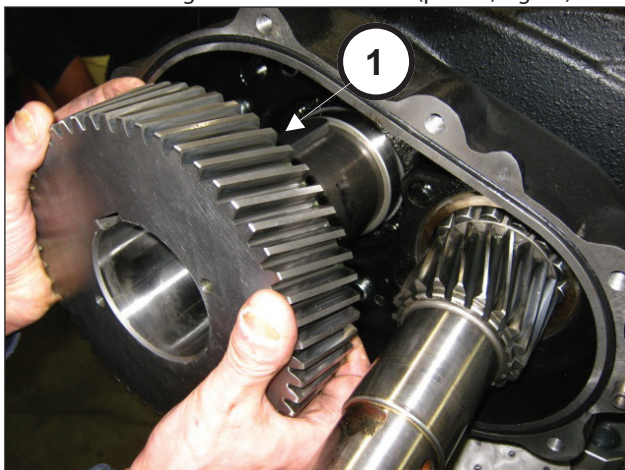
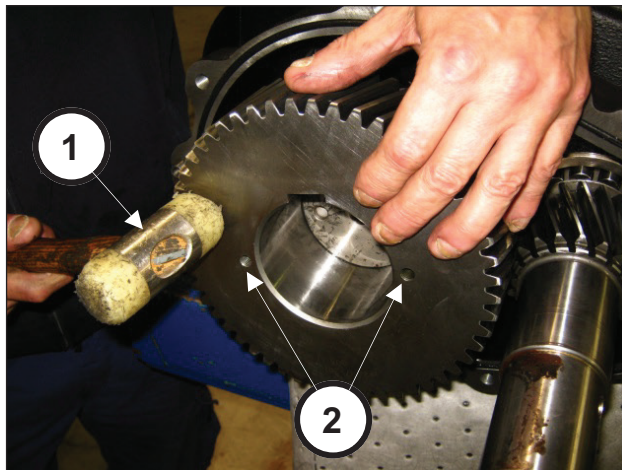

Fig. 79
Fig. 80
Insert the ring gear on the shaft (pos. ①, Fig. 79) and move it to end stroke using an extractor hammer (pos. ①, Fig. 80).
The ring gear must be assembled making sure that the two M8 holes (to be used for extraction) are facing the exterior of the pump (pos. ②, Fig. 80).